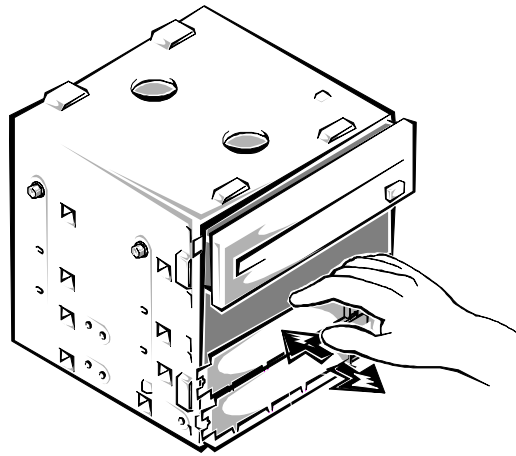

Figure 3-8. Removing a 3.5-Inch Drive Bay Plate
5. Remove the metal plate covering the bay as shown in Figure 3-8. Work the plate back and forth to break the perforations around the edges.
4. Remove the metal plates covering the 3.5-inch bays. Work the plates back and forth as shown in Figure 3-8 to break the perforations around the edges.